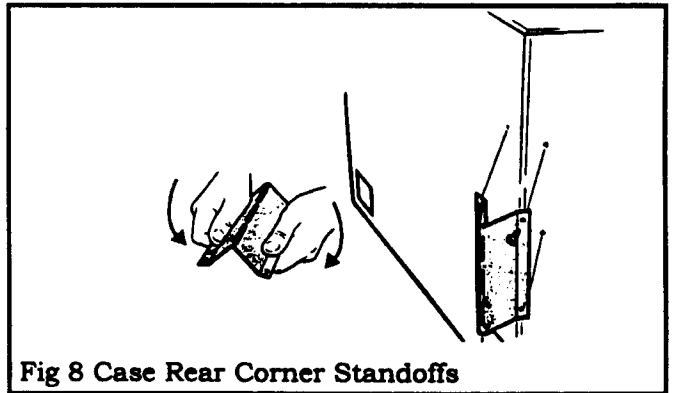

Fig 8 Case Rear Corner Standoffs
6.5 Bend the two case rear corner standoffs. Fit them to the rear corners of the case with the #8 thread cutting screws provided (four screws per standoff) (Fig. 8)